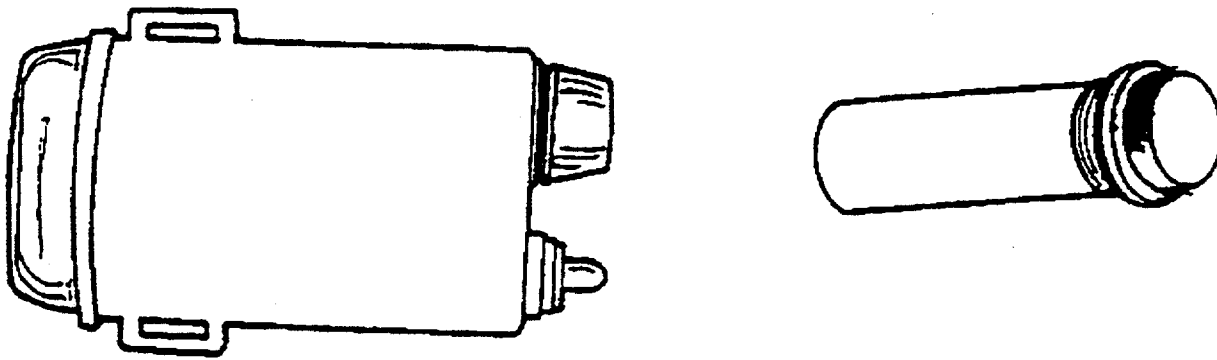

Figure 2-22. Distress Light Signal
- o. Distress Marker SDU-5/E Light (Strobe Light). The distress marker light (See Figure 2-22) is a battery powered, high intensity sequenced light (strobe light). The light can be seen for 5 miles (8 km) at night and will operate for 9 continuous hours or 18 intermittent hours on the same battery. It has 3 spare batteries.